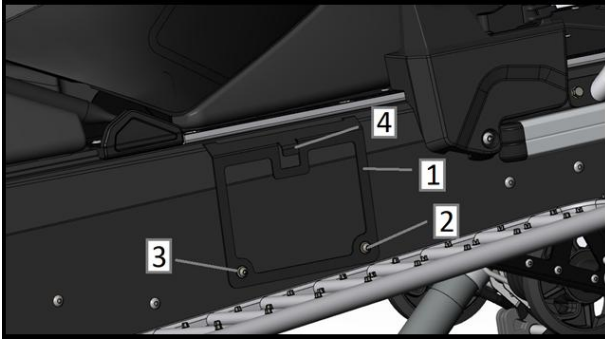

Fig. 39
1. Unscrew the screw (pos. 2, Fig. 39) with a 4 mm hexagon and a 10 mm nut wrench. There are nuts and fixing screws on the back of the frame tunnel.
2. Take out the screws, take down the lock washers (position 3, Figure 39) and fixing nuts, and take down the registration number frame (position 1, Figure 39).
4. Enter the registration number under the hook in the registration number box (item 4, Figure 39).